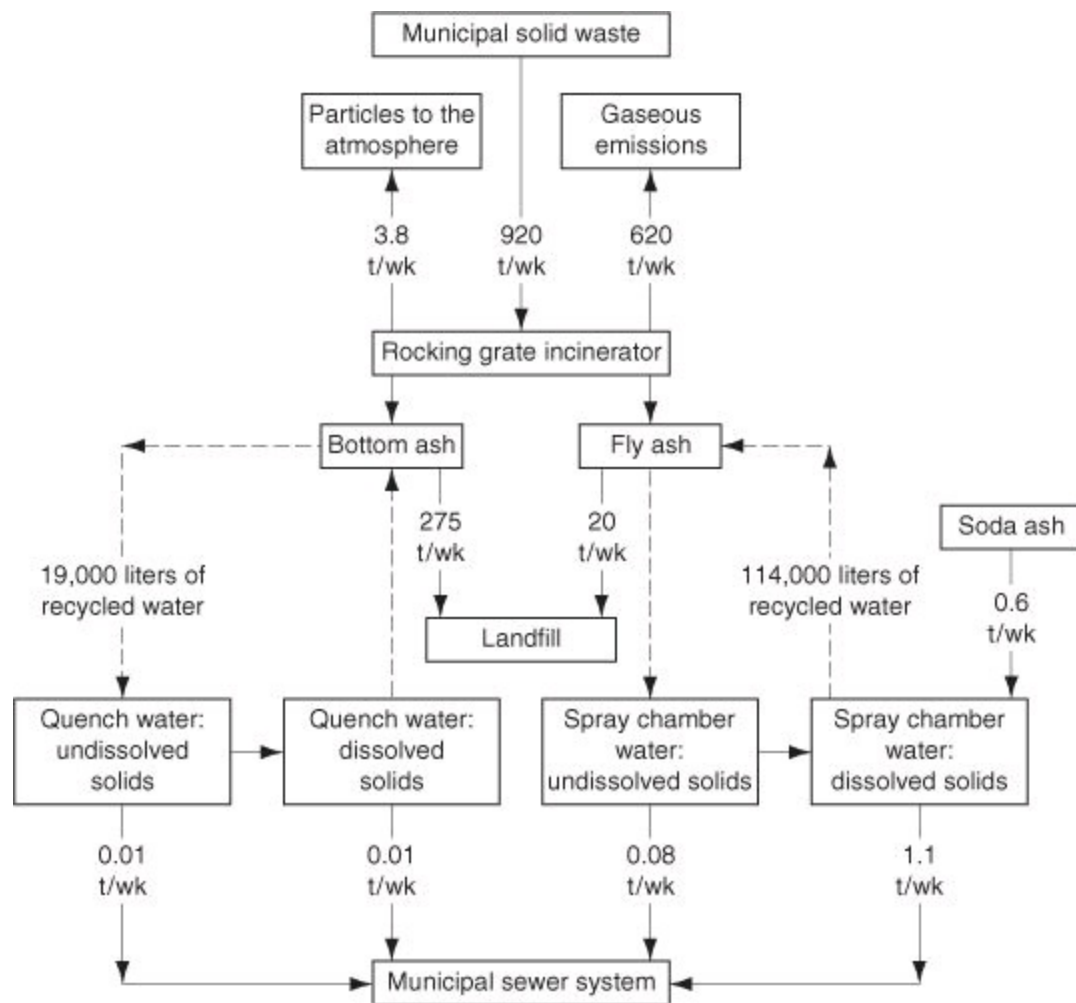

Figure P3.1.17
***3.1.17. Examine Figure P3.1.17. Is the material balance satisfactory? (T/wk means tons per week.)